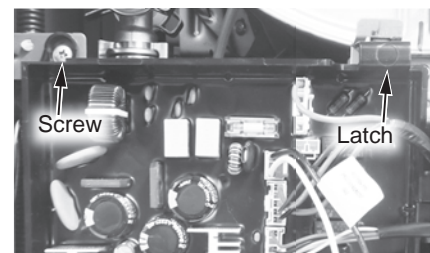

Figure 241 - Control board location
- 9 Locate the two (2) screws at the bottom of the cabinet cover. Use a Phillips screwdriver to remove the screws. Place screws aside in a safe place for reinstallation.
- 11 Locate the screw securing the control board panel as shown in Figure 241. Use a Phillips screwdriver to remove the screw and place it aside in a safe place for reinstallation.